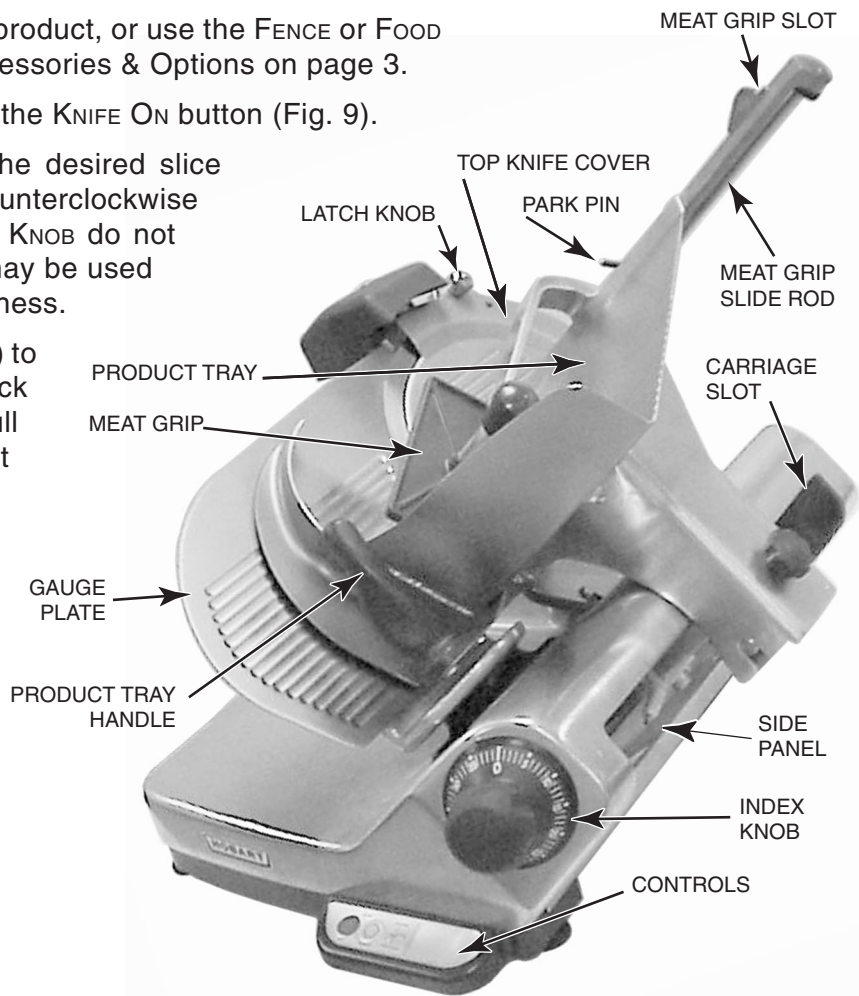
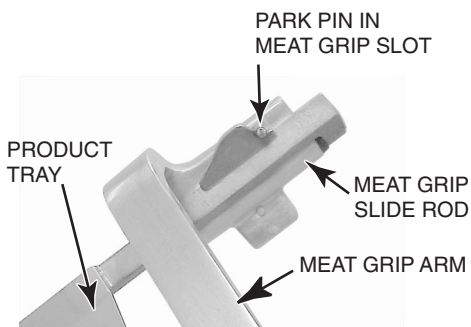

Fig. 7
Fig. 8
The TOP KNIFE COVER, and the plastic RING GUARD COVER underneath it, are shipped in place and secured with the LATCH KNOB on the TOP KNIFE COVER (Fig. 7).
To remove the TOP KNIFE COVER, turn the LATCH KNOB (Fig. 7) counterclockwise and lift the TOP KNIFE COVER off the three guide PINS (Figs. 5, 6). Remove the plastic RING GUARD COVER by lifting it from the guide PINS (Fig. 6).
Secure the RING GUARD COVER and TOP KNIFE COVER by turning the LATCH KNOB counterclockwise while lowering the TOP KNIFE COVER; then, release the LATCH KNOB and turn it clockwise until snug (Fig. 7).
- Close the GAUGE PLATE by turning the INDEX KNOB fully clockwise (Fig. 7).
- Pull the PRODUCT TRAY (Fig. 7) all the way toward you until it reaches its stop (this is the home position).
- Raise the MEAT GRIP to the top of the PRODUCT TRAY, and rest the PARK PIN in the MEAT GRIP SLOT (Fig. 8).
Adjust the GAUGE PLATE to obtain the desired slice thickness by turning the INDEX KNOB counterclockwise (Fig. 7). The numbers on the INDEX KNOB do not indicate actual measurements but may be used for reference to duplicate slice thickness.
Use the PRODUCT TRAY HANDLE (Fig. 7) to push and pull the PRODUCT TRAY back and forth to slice. When finished, pull the PRODUCT TRAY toward you until it stops. Turn the INDEX KNOB fully clockwise to close the GAUGE PLATE — this will turn the slicer off. You can also press the OFF button to stop the slicer.
Raise the MEAT GRIP to the top of the MEAT GRIP SLIDE ROD, and rest the PARK PIN in the MEAT GRIP SLOT (Fig. 8).
Use the PRODUCT TRAY HANDLE (Fig. 7) to push the PRODUCT TRAY back and forth to slice manually. When finished, pull the PRODUCT TRAY toward you until it stops. Close the GAUGE PLATE by turning the INDEX KNOB fully clockwise — this turns the slicer off (or you can press the OFF button). Raise the MEAT GRIP to the top of the MEAT GRIP SLIDE ROD, and rest the PARK PIN in the MEAT GRIP SLOT (Fig. 8).
Remove the TOP KNIFE COVER by turning the LATCH KNOB (Fig. 7) counterclockwise and lifting the TOP KNIFE COVER free of the three guide PINS (Figs. 13, 14).
Carefully reassemble the plastic RING GUARD COVER by putting it in position using the three guide PINS (Fig. 14). Carefully reassemble the TOP KNIFE COVER (Fig. 13) by putting it in position over the plastic RING GUARD COVER using the three guide PINS. Secure both RING GUARD COVER and TOP KNIFE COVER by turning the LATCH KNOB (Fig. 7) counterclockwise while lowering the TOP KNIFE COVER; then release the LATCH KNOB and turn it clockwise until snug.
- Place the TOP KNIFE COVER on top of the RING GUARD COVER, aligning with the three guide PINS (Fig. 13). Secure the RING GUARD COVER and the TOP KNIFE COVER by turning the LATCH KNOB (Fig. 7) counterclockwise while lowering the TOP KNIFE COVER; then, release the LATCH KNOB and turn it clockwise until snug.